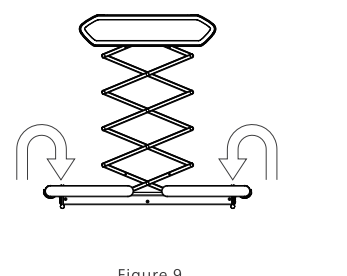

Figure 9
4. As shown in Figure 9, when the bed sheet rod is not needed, it can be folded and put back to rod seat.